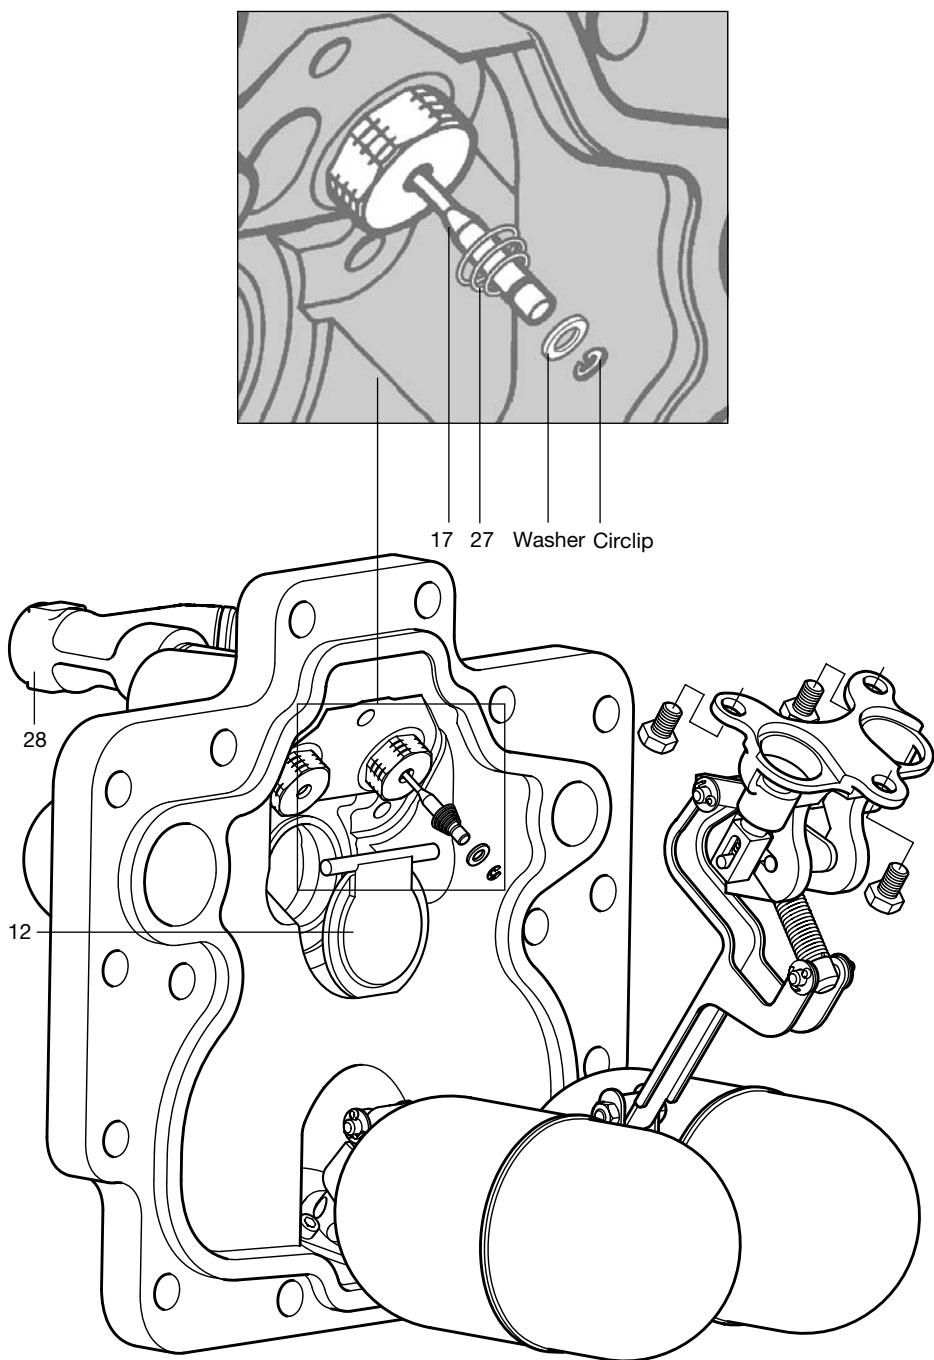

Fig. 19 APT14 shown
3. Carefully remove the circlip, washer and the inlet valve spring (item 27) from the end of the steam inlet valve (item 17).
5. Lift away the pump bracket assembly (See Figure 19). This will allow access to the inlet swing check valve (item 12).
13. Carefully reconnect the motive steam supply and the exhaust lines to the connections marked (S) and (E). The APT14, APT14HC or APT14SHC is now ready to recommission.
14. Make sure that the Spirax Sarco motive supply strainer (with 100 mesh screen) is reinstated to the motive supply connection (item 28, Figure 19).